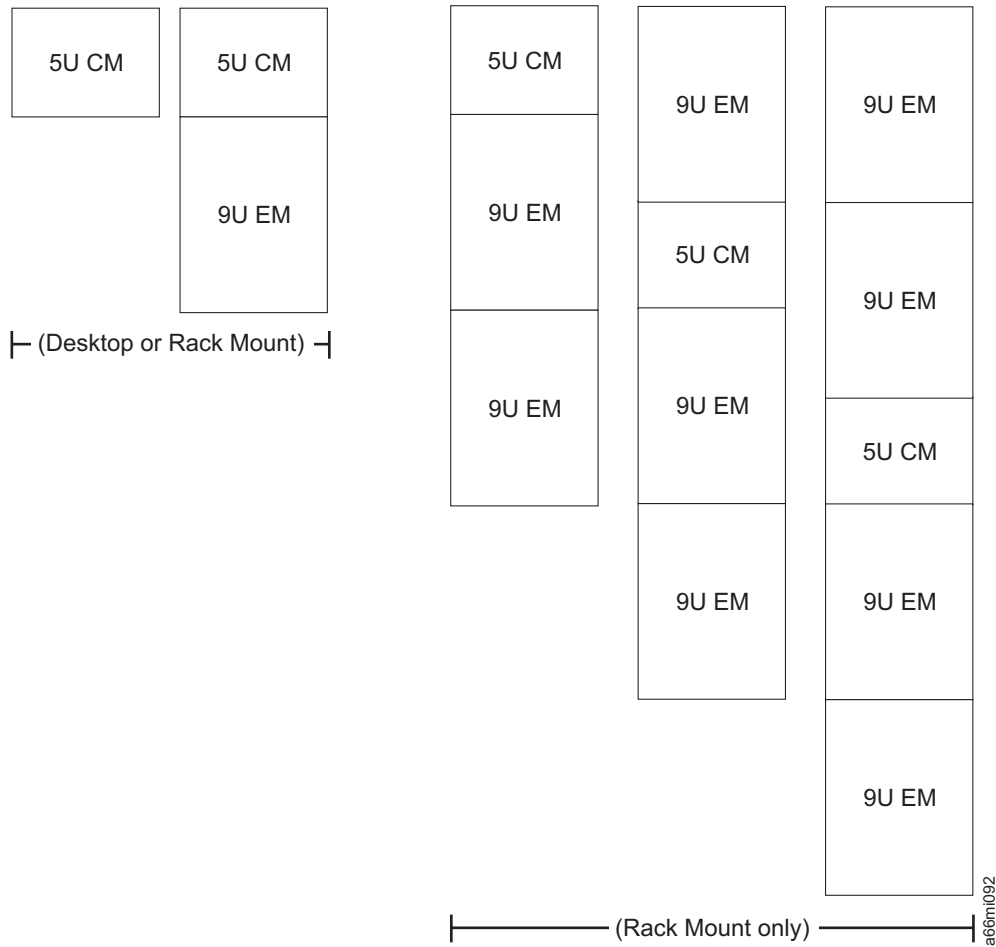

Figure 3-12. Recommended library configurations
2. Refer to Figure 3-12 on page 3-14 and determine which library module will be installed on the bottom.
Refer to Figure 3-12 on page 3-14 and select one of the recommended configurations for your library installation.